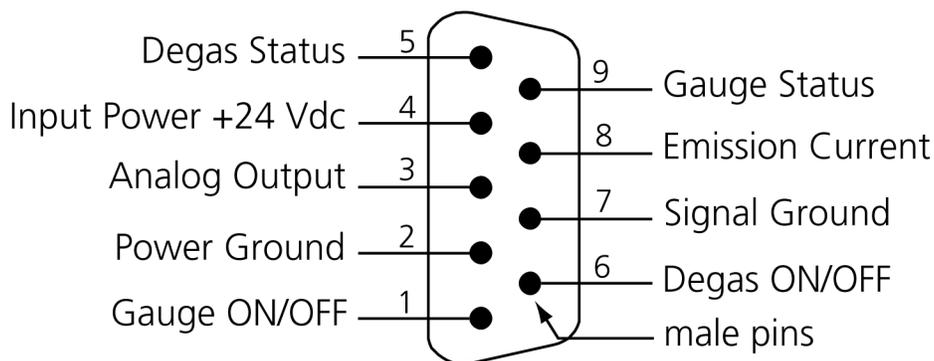

Figure 4-1: 9-pin Connector Pin Assignments
A 9-pin connector is used to operate and communicate with the Mini-Ion Gauge. See Figure 4-1 for pinout assignments of the connectors.
Use the supplied connector on the customer supplied Input/Output cables according to the pin assignments in Figure 4-1. The cable is user-supplied; MKS does not supply the interconnect cable.
- Use a shielded cable and connect its designated conductors to the pins of a Female subminiature "D" connector that will directly mate with the designated pins of the Mini-Ion Gauge Module Electronics Male subminiature "D" connector, shown in Figure 4-1.